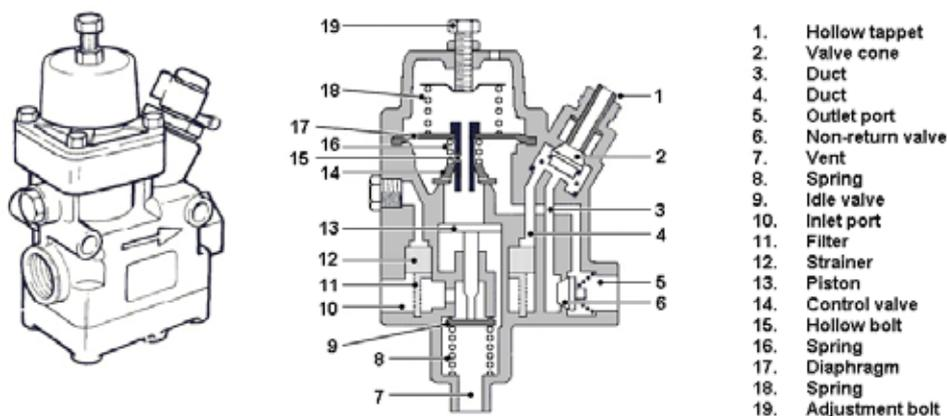

Figure 36 Pressure Regulator
85. **Pressure Regulator.** The primary function of the pressure regulator (Figure 36) is to regulate the pressure of the compressed air being fed to the compressed air receivers from the air compressor. The regulator also filters the air and has a tyre inflating output port. When the compressed air receivers are filling, the air flows into the inlet port (Item 10) through the filter and strainer (Item 11 and 12) and into the ducts (Item 4 and 3). This air forces open the non-return valve (Item 6) and air is fed to the compressed air receivers through the outlet port (Item 5). When the correct pressure is reached in the receivers, the diaphragm (Item 17) moves up against the force of the spring (Item 18), the control valve (Item 14) is lifted off the valve seat just before the hollow bolt (Item 15) seals under the adjusting bolt (Item 19) and compressed air is applied to the piston (Item 13). With the extension of the piston, the idle valve (Item 9) opens; the air is vented to atmosphere and the non-return valve (Item 6) closes to prevent air escaping from the compressed air receivers. If the pressure in the receivers falls, the force of the spring (Item 18) moves the diaphragm down and closes the control valve (Item 14). The compressed air above the piston (Item 13) escapes through the hollow bolt (Item 15) and the vent hole in the top of the housing. The plunger is pushed by the return spring (Item 8) and the idle valve closes. When a tyre inflating hose is connected to the regulator, the hollow tappet (Item 1) is pushed back, pushing the valve cone (Item 2) onto the valve seat opposite and sealing the duct (Item 3). No more compressed air can reach the outlet port and the air flows out of the tyre inflating port. Since the control valve does not switch off in this condition, the idle valve opens when the safety pressure is reached. The regulator pressure is set by the adjusting bolt (Item 19).